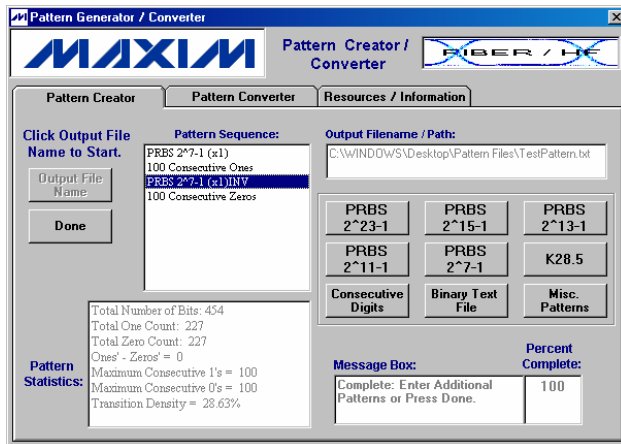

Figure 14. Creator Example Step #8
sequence list adds the letters **INV** to the end of the PRBS sequence to indicate it was inverted (Figure 14).
- The pattern is now created. As seen in the pattern statistics, the pattern is balanced (same number of ones and zeros). Given the long CID sequences that were added, the transition density is much less than 50% (Figure 14).